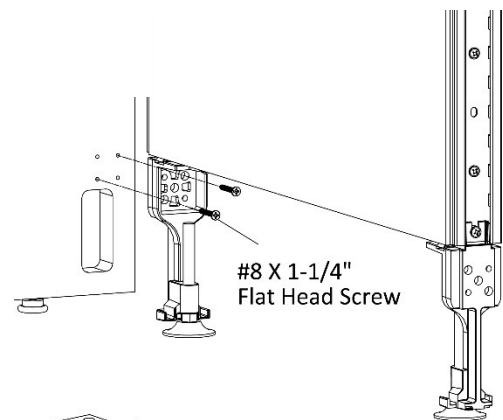

Figure 3
6. Drive two #8 x 1-1/4" Flat Head Screws through the holes in standard panel leg into the pre-drilled holes of gallery panel, (Figure 3).